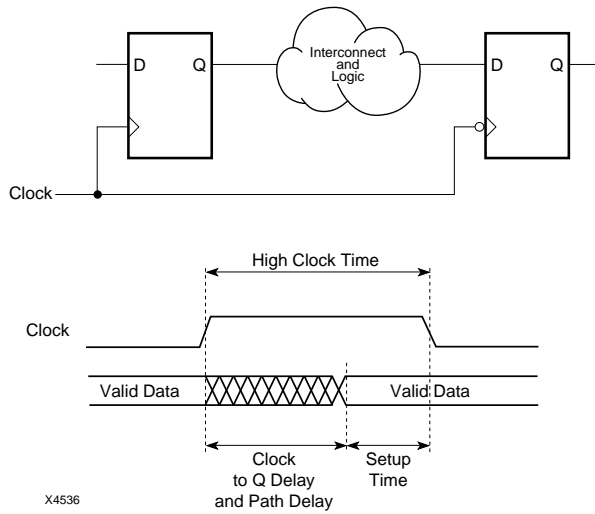

**Figure 1-4 Clock To Setup Path, Same Active Clock Edge**
-ClockToSetup allows you to restrict the report to paths that start at flip-flop and RAM outputs and end at clocked inputs, such as flip-flop data inputs. Refer to Figure 1-4 through Figure 1-7.